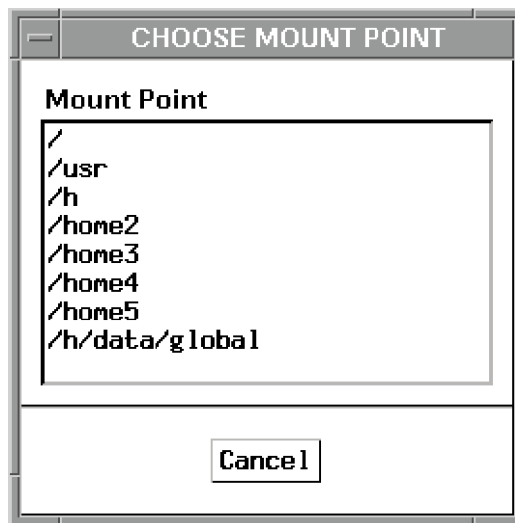

Figure 15. CHOOSE MOUNT POINT Window
- (b) Toggle on the `Popup` checkbox, located to the left of the MOUNT POINT field, to open the CHOOSE MOUNT POINT window (Figure 15). Click on a mount point from the scroll list to select it. The MOUNT FILE SYSTEM window reappears with the new mount point in the FILE SYSTEM field.
(b) Toggle on the `POPUP` checkbox to the left of the `MOUNT POINT` field to open the `CHOOSE MOUNT POINT` window (Figure 15). Click on a mount point from the scroll list to select it. The `MOUNT FILE SYSTEM` window reappears with the new mount point in the `FILE SYSTEM` field.